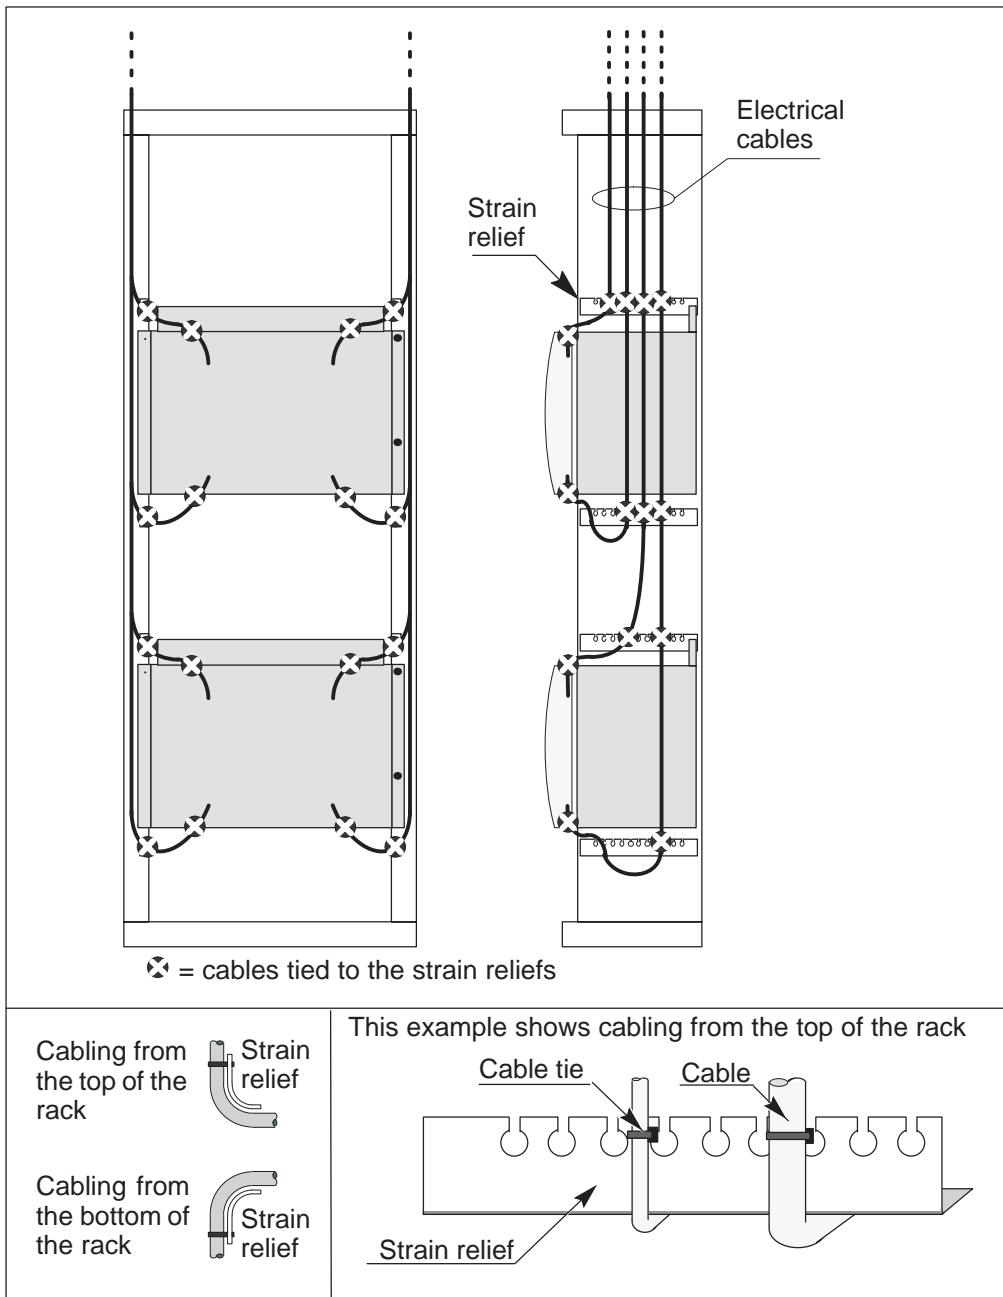

Figure 1 Strain reliefs, tying the cables and schematic diagram of electrical cable routing
1. Mount the strain reliefs to both sides of the rack. The orientation of the strain reliefs depends on whether cables are routed from the top or bottom of the rack. See Figure 1.
3. Route the cables via the sides of the rack from the subrack location. It is easier to handle the connectors in the subrack connector field if cables are routed equally through both sides of the rack. An empty subrack can be used as a guide to gauge the exact length of cable required. See Figure 1.
4. Loosely tie the electrical signal cables to the strain reliefs using cable ties. Each cable must be tied to the strain relief closest to the subrack to which the cable is connected, see Figure 1.